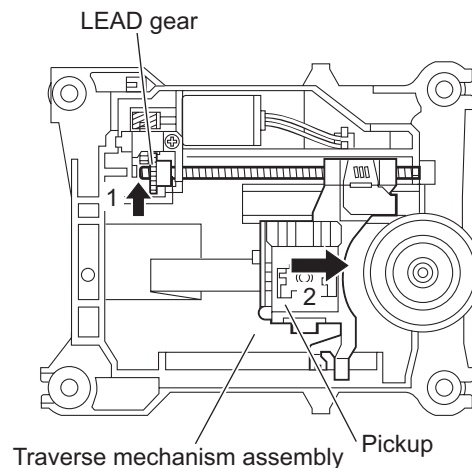

Fig.10
- One turn the LEAD gear to direction of the arrow 1 and fully shift to direction of the arrow 2. (See Fig.10)